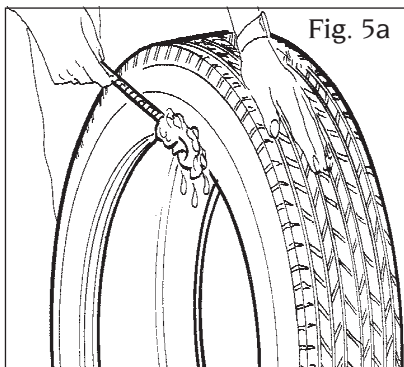

Fig. 5a
- Depress pedal (11) and break the bead.
- Liberally apply tire manufacturer approved rubber lubricant to the entire circumference of both beads to facilitate mounting/demounting and to prevent damage to the beads (Fig.5a).